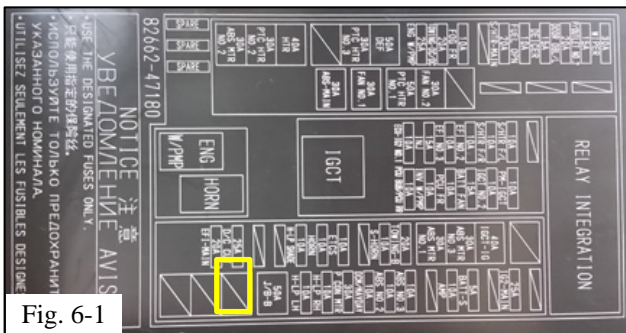

Fig. 6-1
- (a) Temporarily reconnect the negative battery terminal. If required, install the short pin (Fig. 6-1).